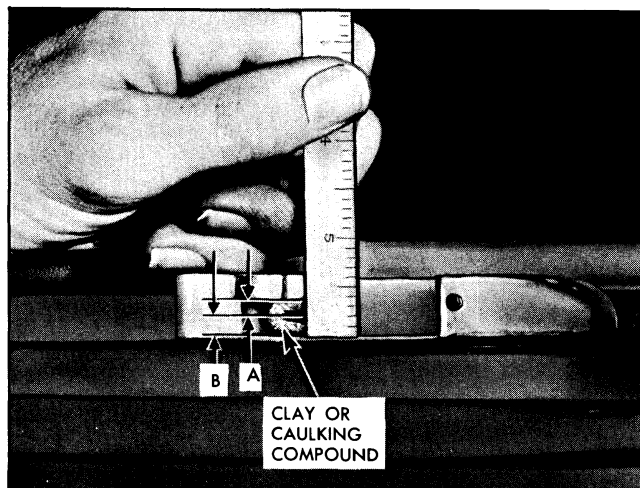

Fig. 15-16 Back Door Lock Striker Engagement Check
b. To determine if lock striker emergency spacers are required, apply modeling clay or body caulking compound in the lock striker notch where the lock extension engages; then, close the back door to form a measurable impression in the clay or caulking compound (Fig. 15-16).